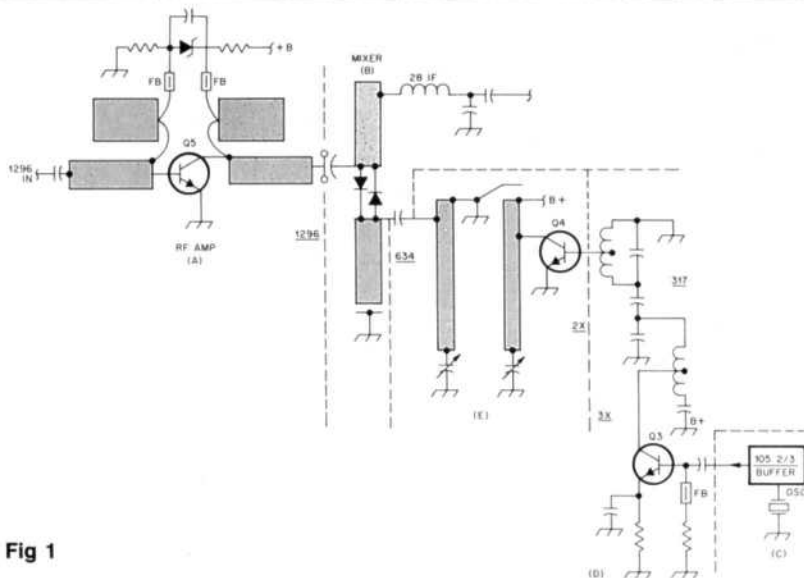

Fig 1
cid to also get an extra 23-cm receiver converter ready in case it became needed in this summer's round of contests. "Easy task," I thought. I had the test equipment all set up and had an untested converter on a shelf, built from an article in the March 1982 issue of *Radio and Electronics World*, an English publication. The kit was apparently made available by a European group, if the parts are any indicator. The converter (Fig 1) has a microstrip RF amplifier stage (A), a passive microstrip harmonic mixer (B) and a four-stage LO chain (C and D), with microstrip double-pole filter in the last (half-injection-frequency) multiplier (E). Simple and easy to get operating, right? I spent six weeks of lunch hours correcting problems with each active stage. The troubles I encountered are worth commenting upon as they are typical of problems that are often encountered with any project, and may save other VHF+ ers from suffering all kinds of frustration (and possibly give up VHF+ construction and/or operation).